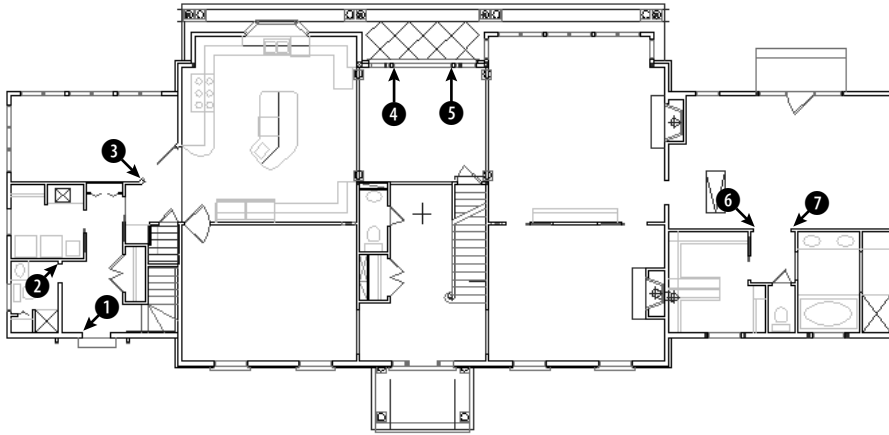

Figure 18-10: The floor plan of the house needs some doors and a new toilet.
2. Save the file as `ab18-03.dwg` in your AutoCAD Bible folder. This is the floor plan of the first floor of a house, as shown in Figure 18-10. Many of the doors and a toilet need to be inserted. OSNAP should be on. Set running object snaps for endpoint and midpoint. The current layer is Door.
Specify insertion point or [Scale/X/Y/Z/Rotate/PScale/PX/PY/PZ/PRotate]: *Use the Endpoint object snap to pick 1 in Figure 18-10.*
6. Repeat the INSERT command. The Insert dialog box already shows the DOOR block. Click OK. Follow the prompts. You'll probably want to use Zoom Window to zoom into the area of 2 in Figure 18-10.
Specify insertion point or [Scale/X/Y/Z/Rotate/PScale/PX/PY/PZ/PRotate]: *Pick 2 in Figure 18-10.*
7. If you zoomed in for the previous step, return to the previous view using Zoom Previous. Zoom in to the area around 3 in Figure 18-10. Choose Insert Block from the Draw toolbar. Click OK. Follow the prompts:
Specify insertion point or [Scale/X/Y/Z/Rotate/PScale/PX/PY/PZ/PRotate]: *Pick 3 in Figure 18-10.*
8. Use Zoom Dynamic to zoom in to the area around ④ and ⑤ in Figure 18-10. Choose Insert Block from the Draw toolbar. Click OK. Follow the prompts:
Specify insertion point or [Scale/X/Y/Z/Rotate/PScale/PX/PY/PZ/PRotate]: *Pick ④ in Figure 18-10.*
10. Use Zoom Dynamic to zoom in on the area around ⑥ and ⑦ in Figure 18-10. Start the INSERT command and click OK. Follow the prompts:
Specify insertion point or [Scale/X/Y/Z/Rotate/PScale/PX/PY/PZ/PRotate]: *Pick ⑥ in Figure 18-10.*
Specify insertion point or [Scale/X/Y/Z/Rotate/PScale/PX/PY/PZ/PRotate]: *Pick ⑦ in Figure 18-10.*